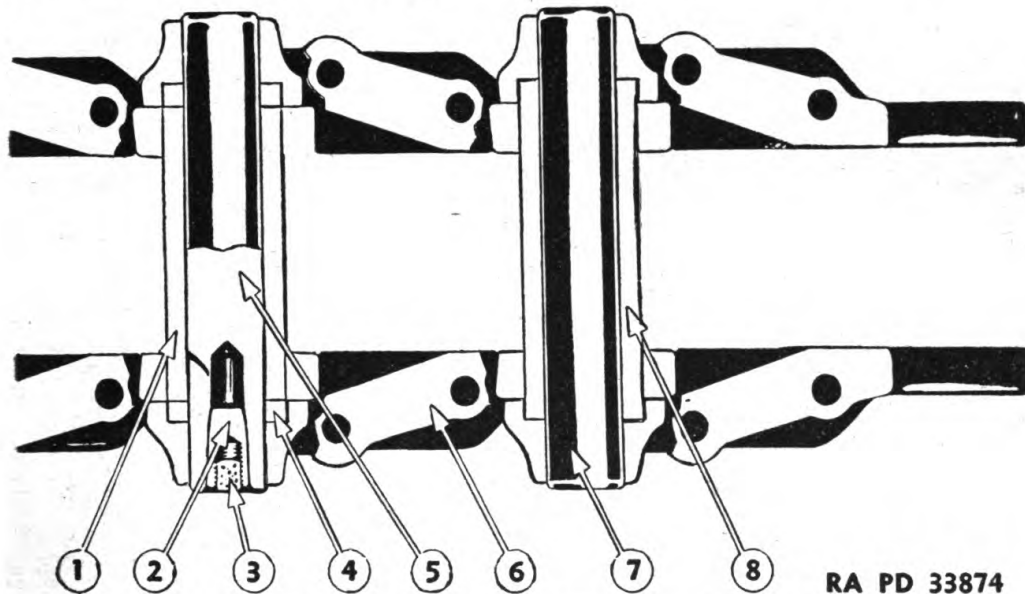

FIGURE 158.—Track link assembly—schematic.
140. General.—The track link assembly (fig. 158) consists of links, pins, and bushings. Each link (6) overlaps the preceding link thus forming a continuous chain. Each link is counterbored in the overlapped portion to provide a tight, well-sealed joint and to minimize the entrance of abrasives. The bushings (8) are all alike except the master bushing (1) which is shorter for assembly purposes.